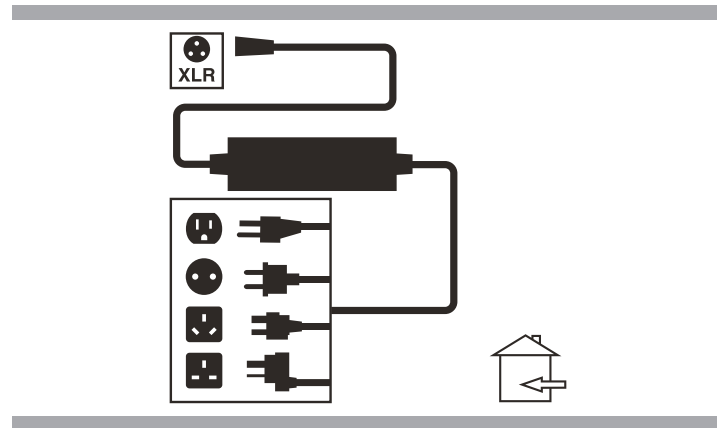

Figure 25. Battery Charger
3. Plug the off-board charger into the off-board charger/programming socket on the controller. **See figure 25.**